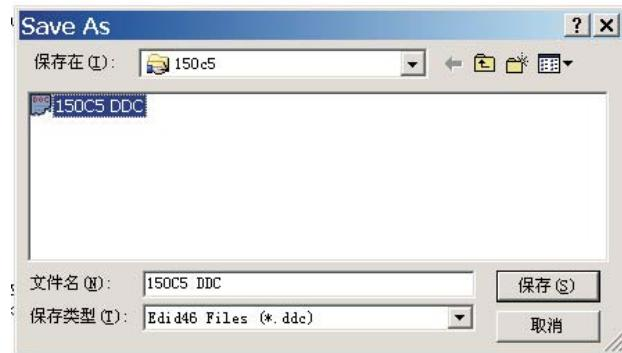

Fig. 26
1. Click (Save) icon (or click "file"-> "save as") from the tool bar and give a file name as shown in Fig. 26. The file type is EDID46 file (*.ddc) which can be open in WordPad. By using WordPad, the texts of DDC data & table (128 bytes, hex code) can be modified. If DDC TEXTS & HEX Table ar completely correct, it can be saved as .ddc file to re-load it into DDC IC for DDC Data application.